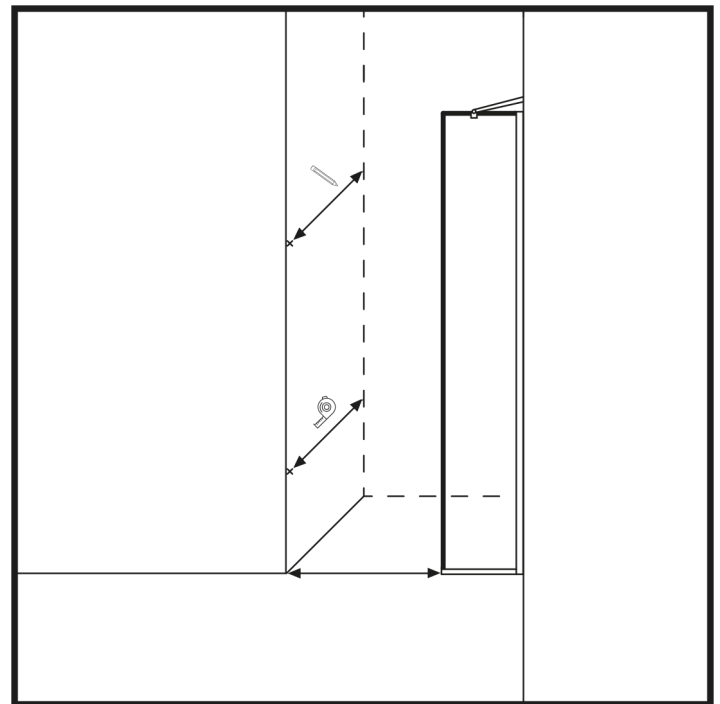
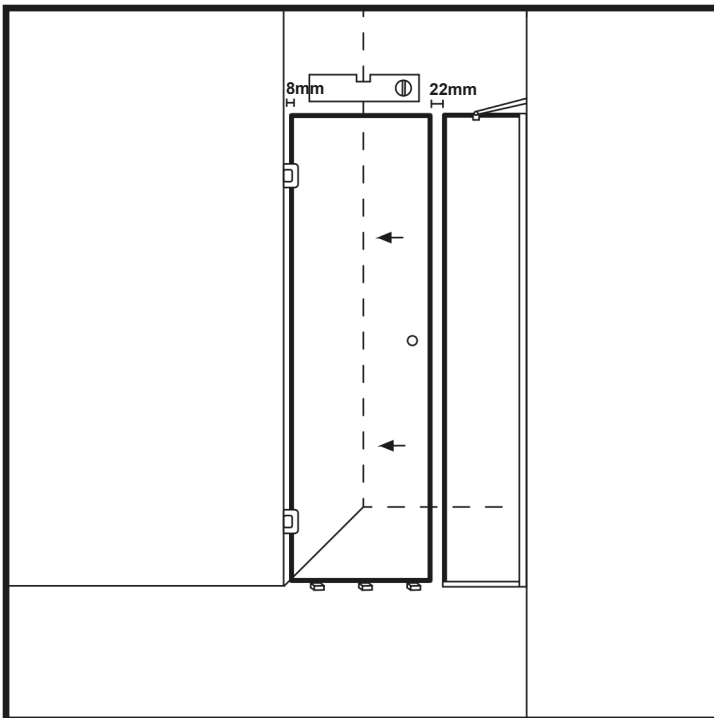

Figure 12
Figure 13
28. Measure the necessary distances from the corner of the wall and make sure that the door glass is parallel to the wall glass. (Figure 12)
29. Place wooden blocks (max. thickness 10 mm) on the floor where you can support the hinged door glass. (Figure 13)
31. Place the door glass vertically on the wall using a spirit level. Make sure that there is a gap of approximately 10-13 mm below the glass to the edge of the floor. Mark the holes in the hinges (the locations of the dowel holes) on the wall and remove the glass. (Figure 12 and Figure 13)